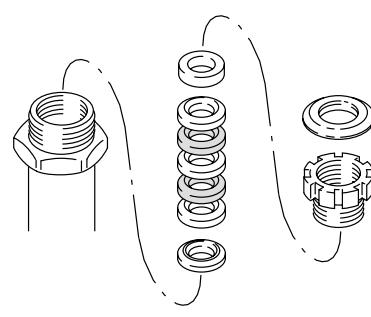

Fig. 22 _____ 02565
8. Remove and discard the throat packings and glands. See Fig. 22.